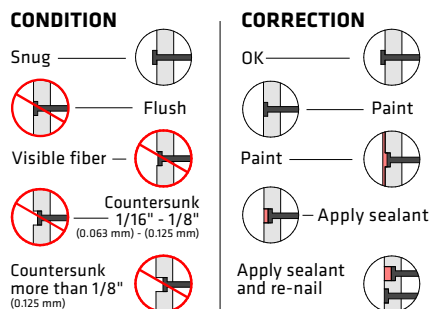

Fig 3a
- Nail head should seat snug to face of siding, but not be flush to distort the siding surface. (Figure 3a)